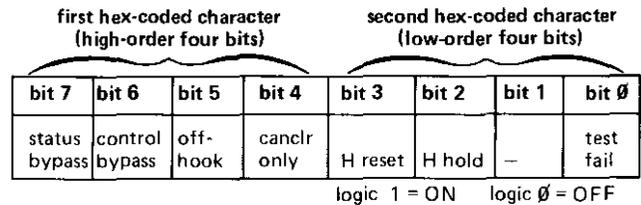

figure 11. Bit map for channel status (*S*) command
the *S* command is entered, the targeted 251 System first returns the System unit number and channel number (using the protocol described in paragraph 5.03). The 251 System then returns two hex-coded characters that contain the status information. To interpret this information, first take the first character as a hex digit, convert it to binary, and map it into the high-order four bits of the bit map in figure 11. Then take the second character as a hex digit, convert it to binary, and map it into the low-order four bits of the
bit map in figure 11. For example, if the status characters are *D* followed by *I*, the bit map is *11010001*. Figure 11 shows the bit definitions for the bit map. Logic 1 indicates that the corresponding 6954 front-panel LED is lighted; logic 0 indicates that it is off.
**Example 2:** To read channel status for channel 8 of System unit 17, send the following characters in the order given: *q*, 0, 8, *S*. The 251 System returns the following characters: *q*, 0, 8, *D*, 1. The corresponding status bit map is 11010001, indicating that channel 8 is in manual bypass, the *canceller only* parameter is set, and the channel fails self-testing (see figure 11).